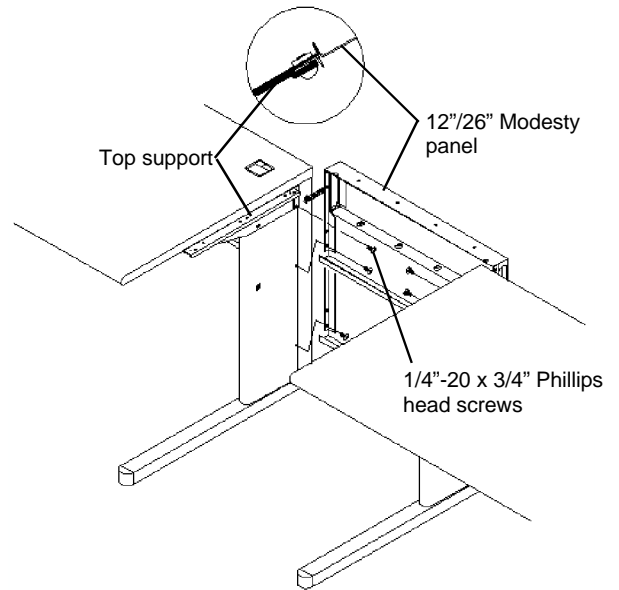

Figure 4
3. The **Modesty Panel** is installed from the rear and fits between the Top Supports and the Legs. Fasten it with four 1/4"-20 x 3/4" Phillips head screws. Tighten all screws. See **Figure 4**.